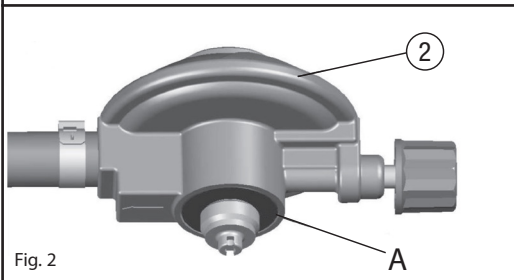

Fig. 2
- Be sure that the «A» sealing ring found on the regulator outlet connection (2) (fig. 2) is present and in proper working condition before attaching the gas tank. Do not use the stove if the seal is missing or damaged: return it to your retailer.